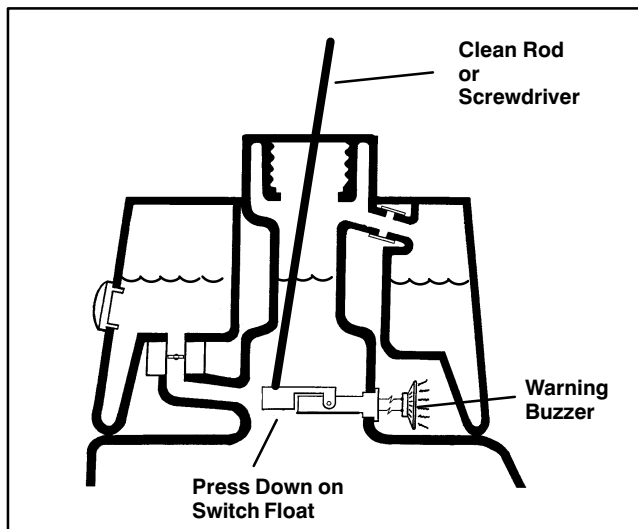

Figure 23
- Insert a clean rod or screw driver into tank neck and gently push down on switch float (Fig. 23). Alarm should sound after one second delay.